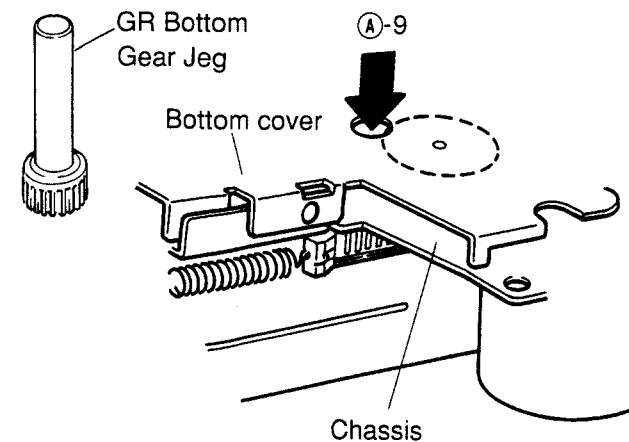

Figure 4
- (12) Since the hooks marked ③-8 will be lifted slightly as shown in Figure 4, insert the jig through the hole ③-9, and fix it turning the jig slightly in the direction ③-11.
(Refer to Figures 4 and 5.)
- (14) Insert the jig into the hole ③-9 as shown in Figure 4 and rotate the eject solenoid counterclockwise about 20 times, pulling it in the direction ③-10 with the finger. Then the eject operation is completed. Instead of operation (14), the eject operation can be performed by mounting the mechanism to the product. (Refer to Figures 4 and 5.)